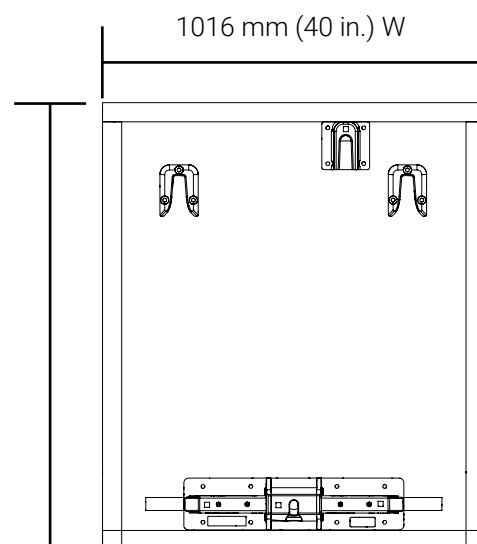

Figure 29: Application of the tripping hazard marking tape PRT-008-121 and 50.8 mm (2 in.) W X 609.6 mm (24 in.) L stretcher alignment decal PRT-008-122
17. Draw a 1016 mm (40 in.) W X 1143 mm (45 in.) H border around the AnchorMed Floor Mount components, to identify the tripping hazard perimeter using marking tape PRT-008-121 (Figure 29 A).
18. Stick the 50.8 mm (2 in.) W X 609.6 mm (24 in.) H stretcher alignment decal PRT-008-122 on the floor, outside the tripping hazard perimeter and centered with the Floor Anchor towards patient foot end (Figure 29 B).